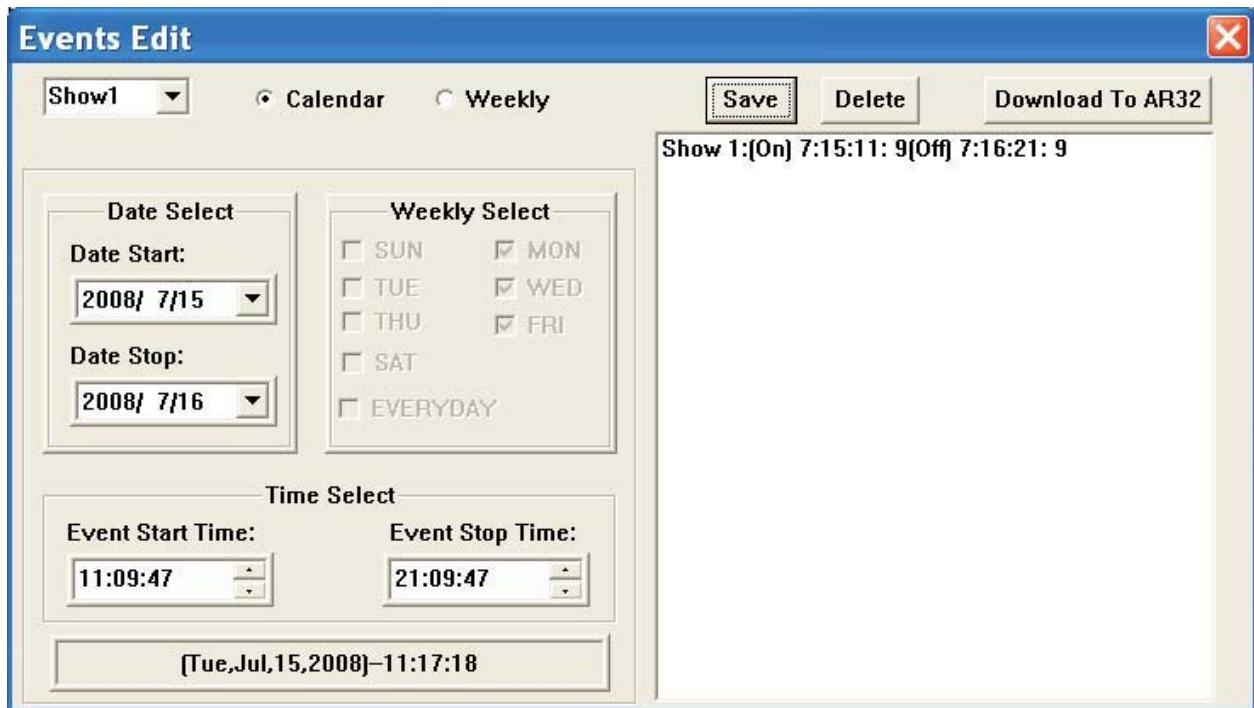

Figure 24
3. Select the [Save] button. Saved events will display in the window on the right side of the screen (Figure 24).